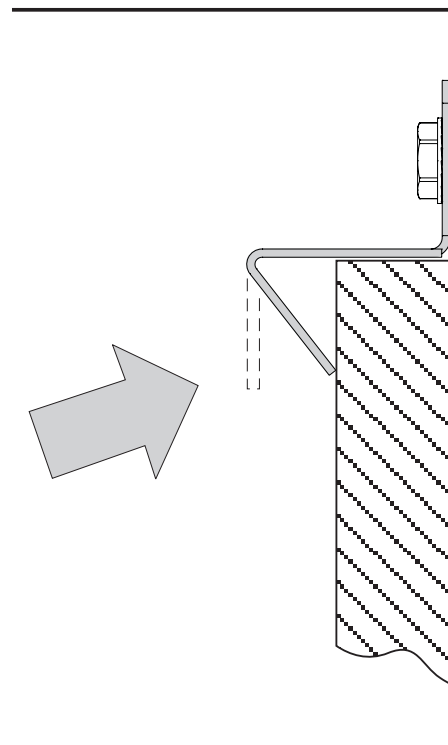

Figure 6
9. Gently bend the lower tab of each upper liner bracket until it touches the liner. **See Figure 6.**